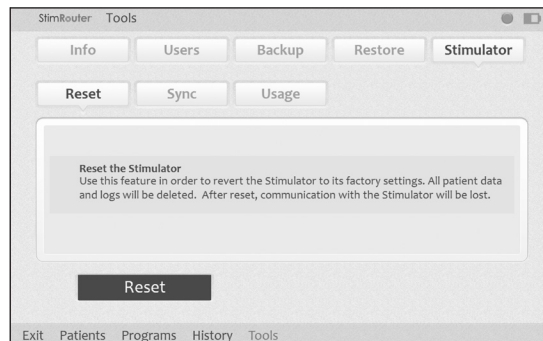

Figure 9-1: Resetting the Patient Programmer and External Stimulator
2. Press "Tools" on the Menu Bar, then press the Reset Tab. **See Figure 9-1.**